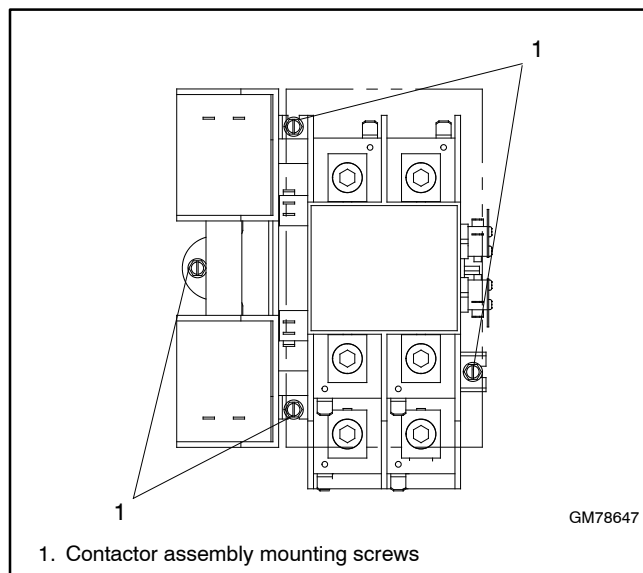
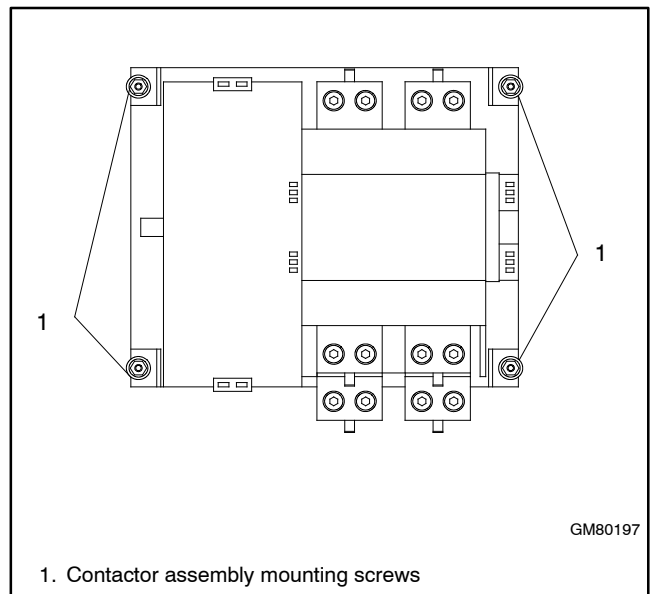

Figure 7-4 Contactor Mounting Screws, 100–200 Amp Models, Typical
Figure 7-5 Contactor Mounting Screws, 300/400 Amp Models
4. Support the contactor and remove the screws located at the corners of the contactor's base that secure the contactor assembly to the back wall of the enclosure. See Figure 7-4 or Figure 7-5.